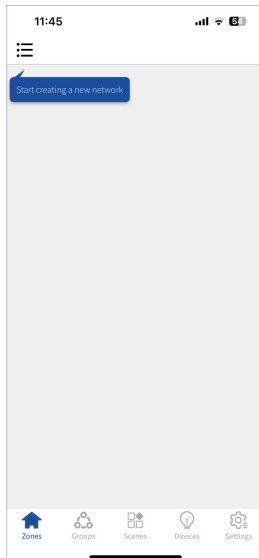

Figure 3.1 Zone page
1. Create a network by clicking  on the left corner of the zone (see figure 3.1) and create a network by clicking .